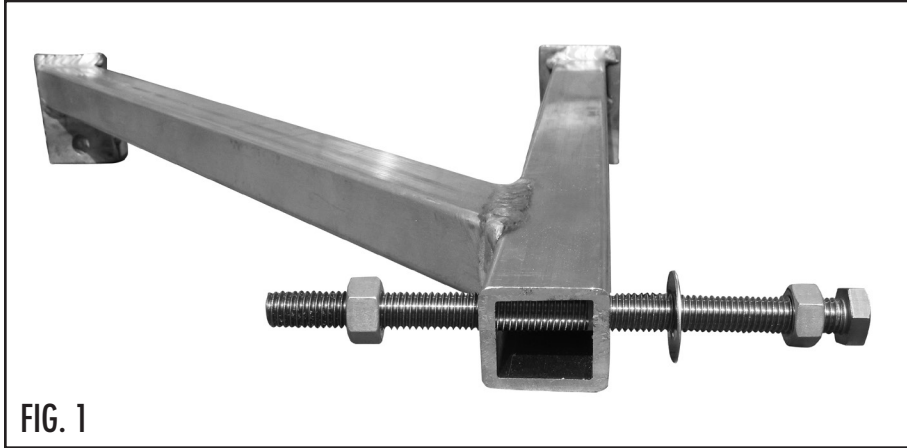

FIG. 1
1. INSTALL ONE 3/8" NUT (ITEM #3) WHICH WILL BE REFERRED TO AS THE ADJUSTMENT BOLT LOCK NUT, AND WASHER (ITEM #1) ONTO THE 6" ADJUSTMENT BOLT (ITEM #2) AND INSTALL THE BOLT THROUGH THE HOLE IN THE TOP OF THE VERTICAL TUBE. INSTALL A SECOND 3/8" NUT ONTO THE ADJUSTMENT BOLT AS SHOWN IN **FIGURE 1**.